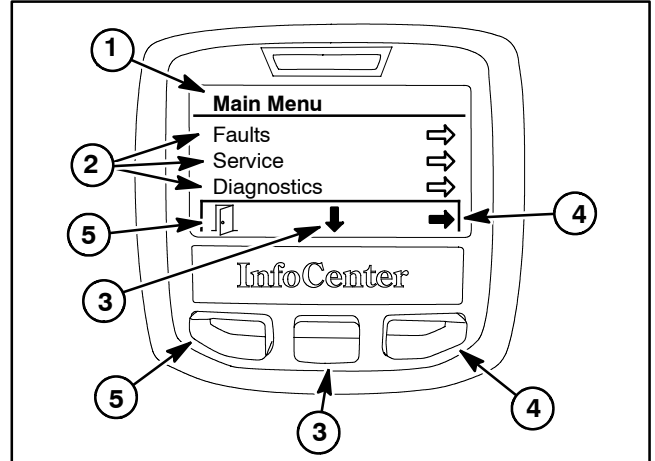

Figure 18
The main menu screen can be accessed from the InfoCenter main information by pressing and releasing the menu/back button (left button) on the display twice. Once at the main menu screen (Fig. 18), navigation to the five (5) different menu items can occur. Pressing the move to menu item button (middle button) allows a different menu item to be highlighted. Selection of the highlighted item is completed by pressing the choose menu item button (right button).